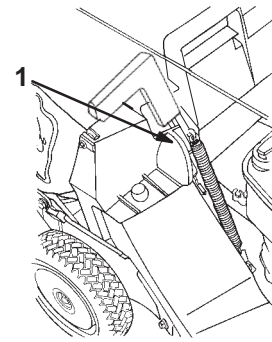

Figure 13
5. Pull the discharge door handle forward until the pin clears the catch, and move the handle rearward until the pin locks in the bag notch (Fig. 13).